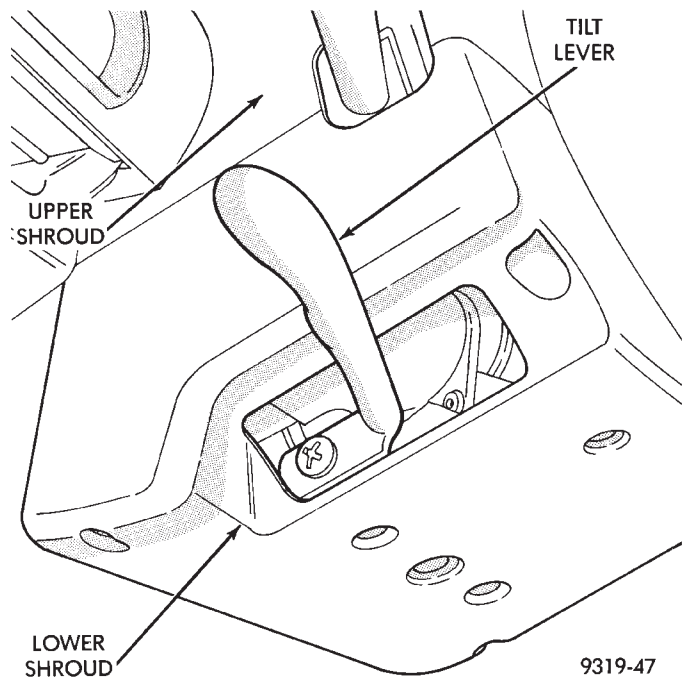
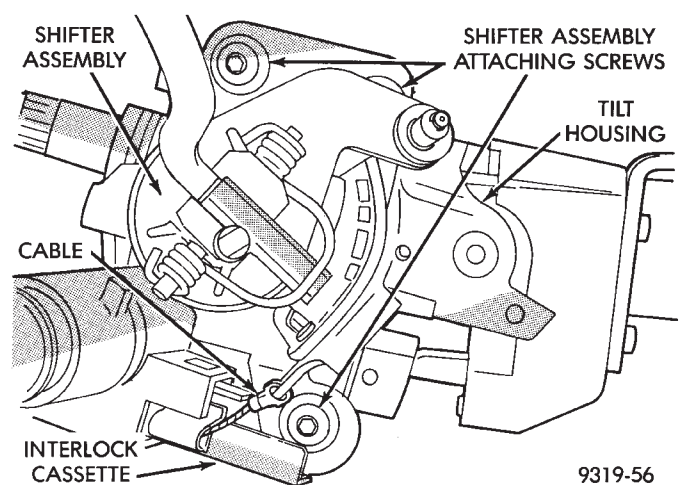

Fig. 1 Tilt Lever And Upper And Lower Shrouds
Fig. 2 Shifter Assembly Attachment To Tilt Housing
(1) Remove tilt lever and upper and lower steering column shrouds from steering column assembly (Fig. 1). Also remove center outlet bezel.
(2) Remove the gear shift cable from the attaching pin on the gear shift assembly.
(3) Unlock shift cable adjuster.
(4) Remove the 3 Torx head screws attaching the shifter assembly to the steering wheel tilt housing (Fig. 2). Then remove shifter assembly from tilt housing and unhook interlock cable from shifter assembly (Fig. 2).
(1) Install new shifter assembly on tilt housing of steering column. Install and securely tighten the 3 Torx head screws attaching shifter assembly to tilt housing.
(2) Install cable from NEW interlock cassette, onto interlock lever of shifter assembly (Fig. 2).
(3) With shifter in the park position and key extracted from ignition switch. Install the NEW interlock cassette into steering column. Be sure interlock cassette locking tab is securely latched.
(4) Install the gear shift cable onto the cable attaching pin on shifter assembly.
(5) Adjust interlock cassette. Refer to the Ignition Switch And Interlock Section of Group 8 for the required operation check and adjustment of the interlock system.
(6) Lock the gear shift cable adjuster.
(7) Install upper and lower shroud on steering column assembly and tilt lever (Fig. 1).